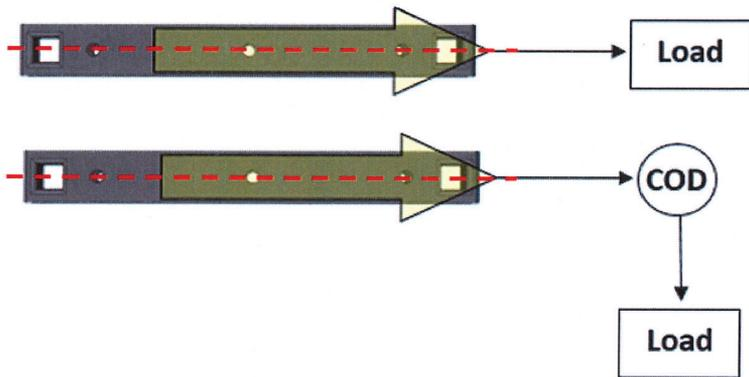
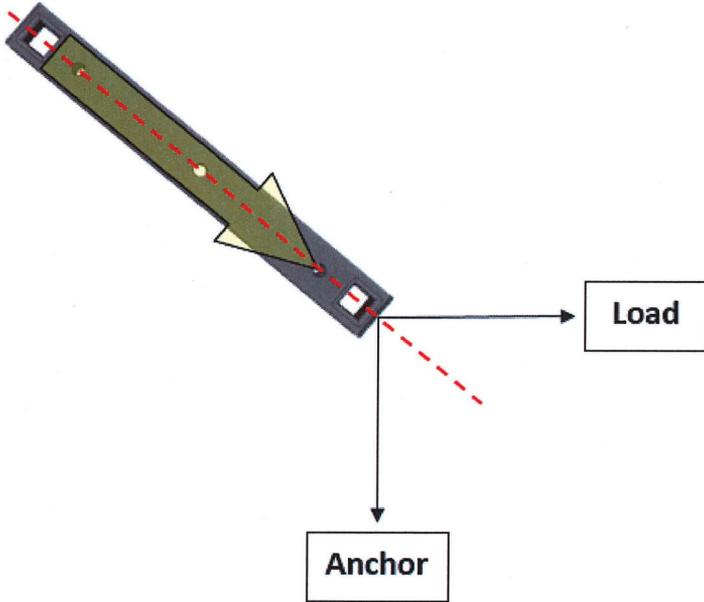

Figure 5a
Figure 5b
2. Position the anchor plate so that the long axis of the plate is in-line with the load to be anchored or the change of direction (COD) to be used (Figure 5a). If using the Hurley Picket Anchor System as the COD, position the plate so that the long axis bisects the angle formed between the anchor and the load, i.e. the resultant (Figure 5b).